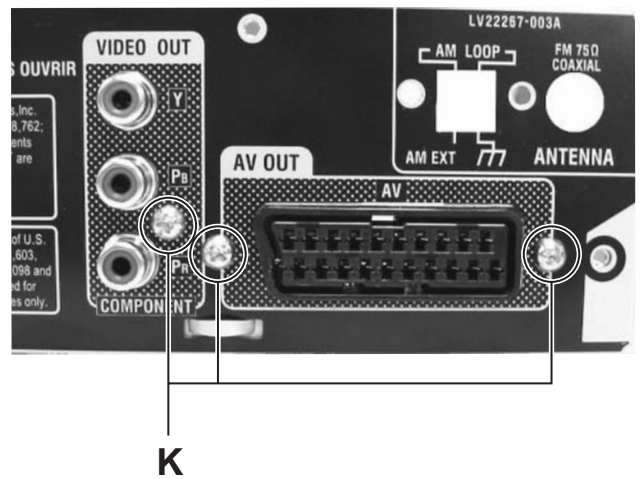

Fig.13
- (3) Remove the three screws **K** attaching the video board from rear panel. (See Fig.13)